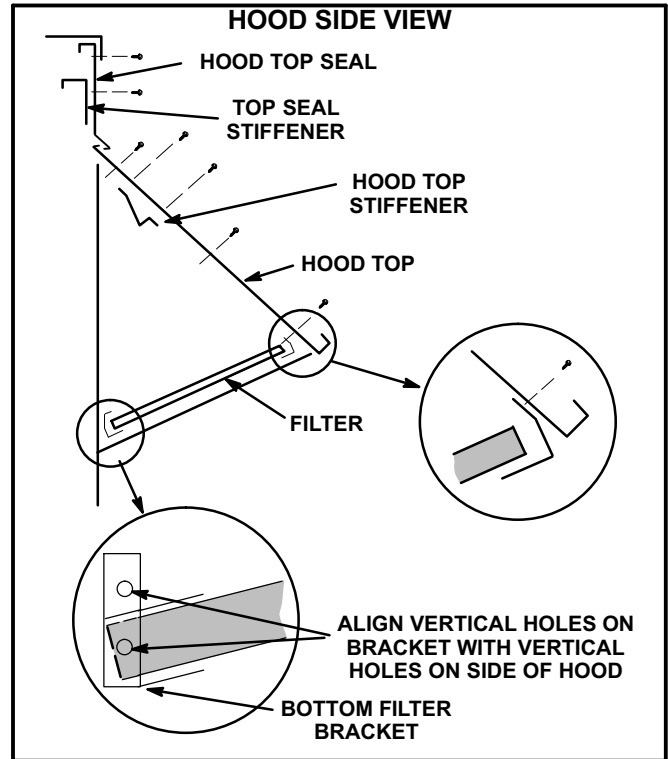

FIGURE 9
- 5- Secure hood top stiffener to unpainted side of the hood top with ten screws. See figures 9 and 10.
- 12- Align the two holes on the left hood side with the two holes in the bottom filter bracket. See figures 9 and 11. Secure with screws.
- 13- Secure bottom filter bracket to right hood side in the same manner. See figures 9 and 12.
- 15- Secure the top filter bracket (long) to the hood top. See figures 9 and 10. Slide two filters into place.
- 16- Insert the third filter into the bottom filter bracket. Position the top filter bracket (short) as shown in figures 9 and 10. Secure the bracket to the hood top with screws.